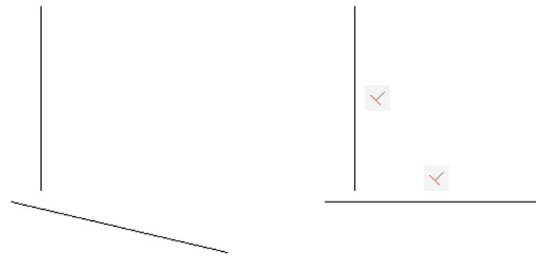

FIGURE 13.12
Step 1. Draw two lines that are roughly perpendicular, as seen in Figure 13.12 (left).
Immediately after the selection of the second line, you see it snap to perpendicular and two sets of geometrical constraints are added next to each line, as seen in Figure 13.12 (right). Note that, if you were to select the bottom line first, then the vertical one would snap to it, not the other way around. Selection order matters.